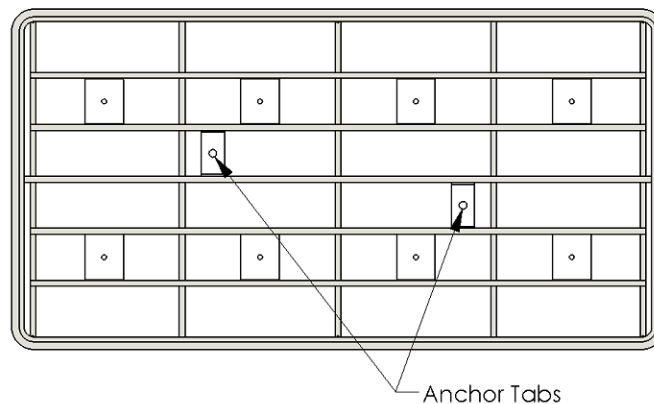

Figure 2
4. Mark drill hole locations through the anchor tabs provided on wire basket. (See Figure 2)